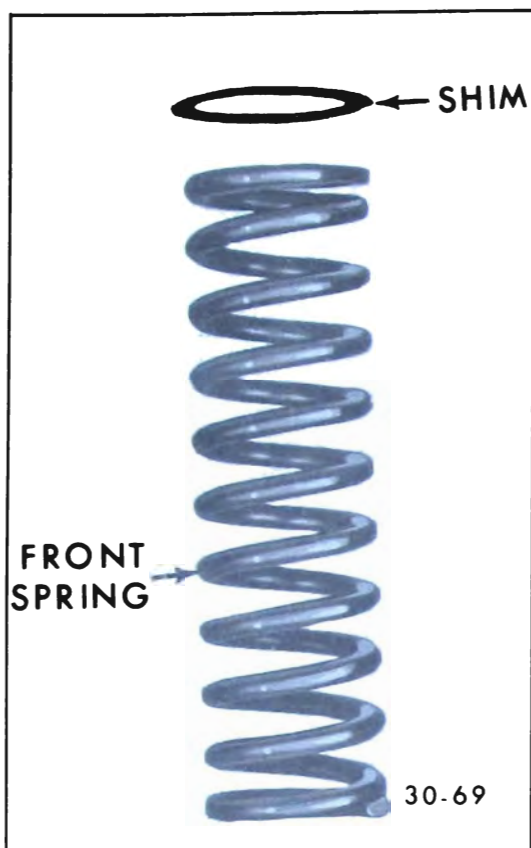

Figure 30-44—Installing Shim on Spring
2. Place shim at top of spring as shown in Figure 30-44.